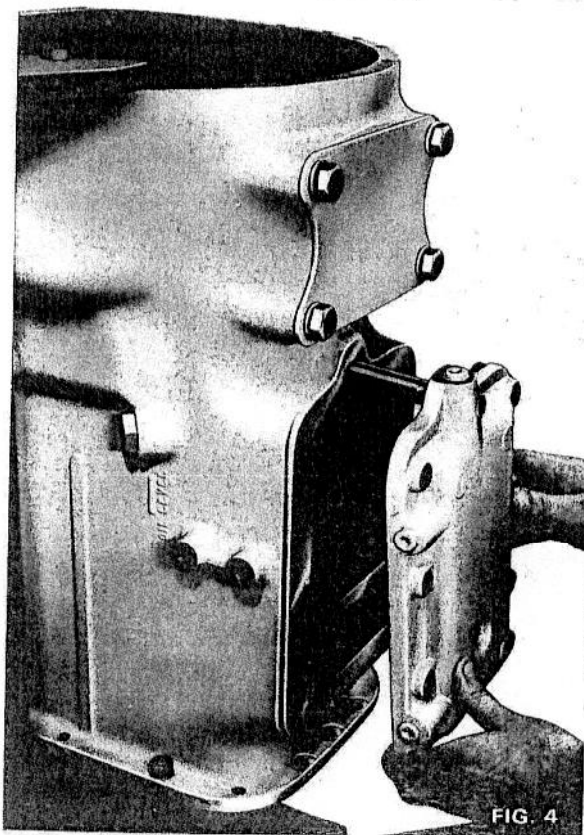

FIG. 4
2. (Fig. 4) Remove the bolts and spring washers securing the sump to the transmission housing. Remove the sump and oil suction pipe.